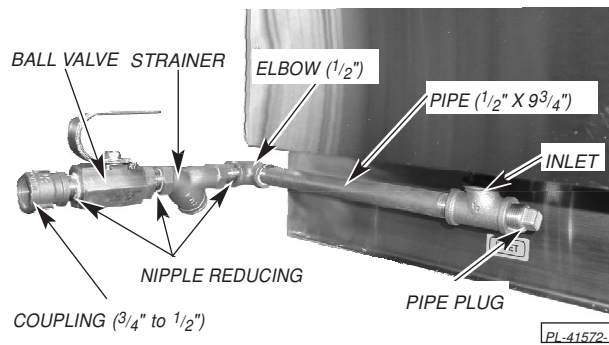
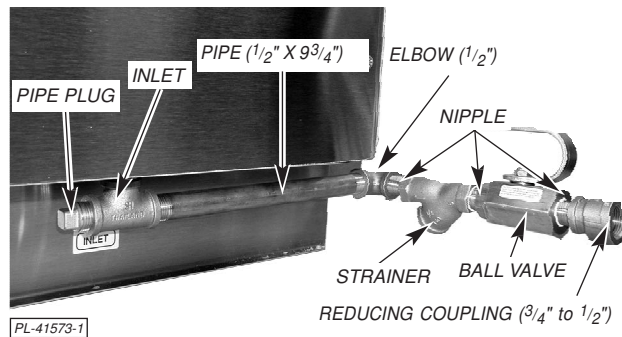

Fig. 5
Fig. 6
*The cold water supply line to the condenser must be a minimum of 3/4 inch pipe. The inlet water supply connection is located at the midline (front to back) below the louvered end of the condenser. Route the incoming supply line behind the control box using the water supply piping and fittings supplied. Install the piping and fittings according to Fig. 5 for left-to-right operation at the exit end; install according to Fig. 6 for right-to-left operation at the exit end. For installations of the condenser at the load end, use Fig. 5 for right-to-left operation; use Fig. 6 for left-to-right.*